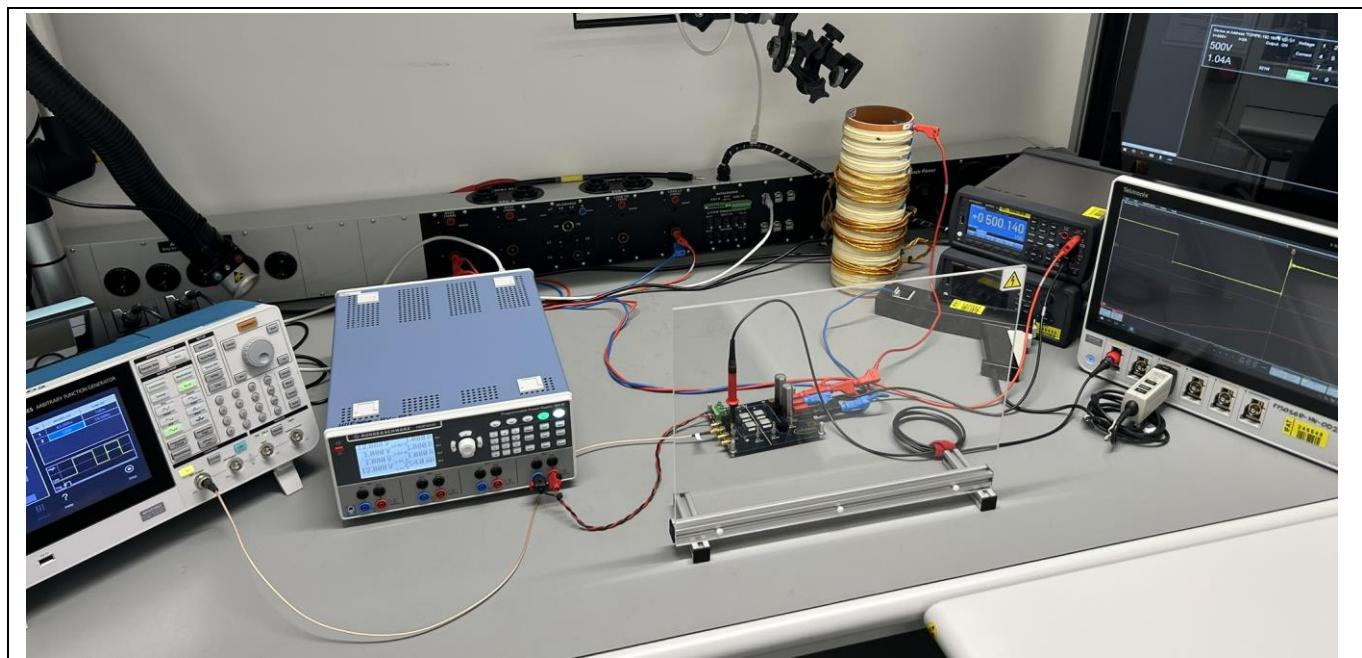

Figure 11 Lab setup for double-pulse testing while measuring the drain-to-source voltage (V_{ds}) via the corresponding probe holder
- A power inductor (see Figure 11)